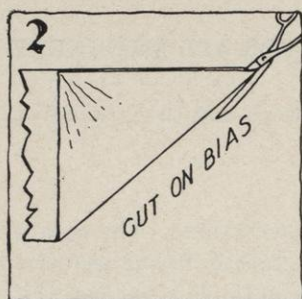

FIG. 2.
- a. Fold over the willow, crinoline, or any other material of which the frame is to be made, to form a bias corner (see Figure 2).
- b. Cut on folded edge (see Figure 2). This cut edge is the bias.